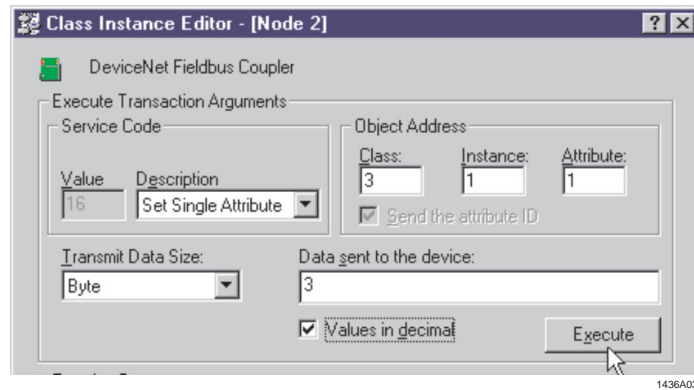

Figure 3-5. Class Instance Editor Window
6. From the Device menu, choose "Class Instance Editor". At this point the "Class Instance Editor" window will appear. See Figure 3-5.
6. From the Device menu, choose "Class Instance Editor". At this point the "Class Instance Editor" window will appear. Refer to Figure 3-5.